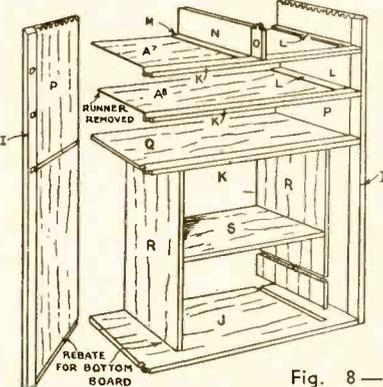

Fig. 8 - General method of tallboy cabinet construction of the
Now, consider curve *b* in Fig. 6 for a moment. In a circuit containing zero damping and zero resistance, it is obvious that the current shown by curve *b* is on the way to building up to infinity. If we could flatten it out at a given current level—put a ceiling on it, as shown in Fig. 8, we should then change the appearance of the Fig. 7 curves to something like Fig. 9. What may be termed the "working portion" of the curve, which contains the modulation which we are interested in, is now reduced proportionately as indicated at *a*. In other words, we have demodulated the wave considerably, and the manner in which it was done was to boost up considerably the C. W. component of the wave, while keeping the modulation component at the same unamplified level. To extract from the carrier wave the intelligence which we desire, i. e., speech and music, all we have to do is to skim the cream off the milk, as it were. In other words we remove, by means of the detector tube, the working part *a* in Fig. 9, and in doing so we never approach the zero line Z.
to a width of 3/8 in. and a depth of 5/16 in. for the back. Groove across the bottom board for the divisions (R) and stop 2 1/4 in. from the front edge as shown in Fig. 8. Vertically in line with these grooves work two more in the cupboard top (similar in size) for the divisions. Groove out the vertical divisions for the shelf (S) to a depth of 3/16 in. These divisions and shelf are the only interior fittings.